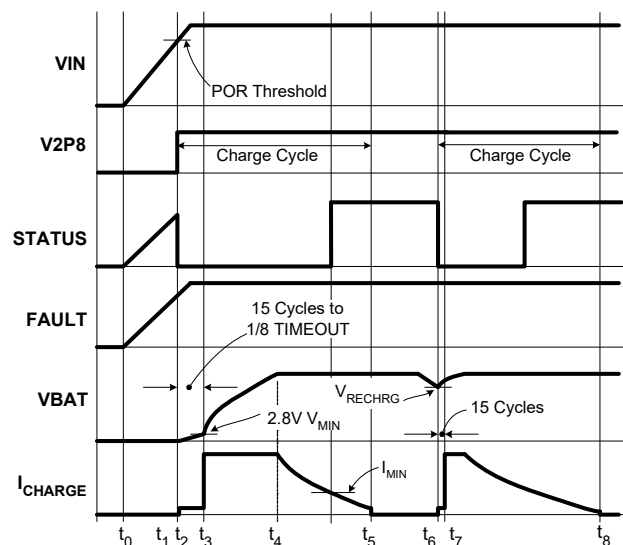

FIGURE 21. OPERATION WAVEFORMS
Figure 21 illustrates the typical signal waveforms for the linear charger from the power-up to a recharge cycle. More detailed Applications Information is given in the following.
The two indication pins, STATUS and FAULT, indicate a LOW and a HIGH logic signal respectively. Figure 21 illustrates the start-up of the charger between  $t_0$  to  $t_2$ .
A charge cycle consists of three charge modes: trickle mode, constant current (CC) mode, and constant voltage (CV) mode. The charge cycle always starts with the trickle mode until the battery voltage stays above  $V_{MIN}$  (2.8V typical) for 15 consecutive cycles of the internal oscillator. If the battery voltage drops below  $V_{MIN}$  during the 15 cycles, the 15-cycle counter is reset and the charger stays in the trickle mode. The charger moves to the CC mode after verifying the battery voltage. As the battery-pack terminal voltage rises to the final charge voltage  $V_{CH}$ , the CV mode begins. The terminal voltage is regulated at the constant  $V_{CH}$  in the CV mode and the charge current is expected to decline. After the charge current drops below  $I_{MIN}$  (programmable for the 4x4 and 5x5 package and programmed to 1/10 of  $I_{REF}$  for the 3x3 package; see "End-of-Charge (EOC) Current" on page 14 for more detail), the ISL6292 indicates the end-of-charge (EOC) with the STATUS pin. The charging actually does not terminate until the internal timer completes its length of TIMEOUT in order to bring the battery to its full capacity. Signals in a charge cycle are illustrated in Figure 21 between points  $t_2$  to  $t_5$ .
After a charge cycle completes, charging is prohibited until the battery voltage drops to a recharge threshold,  $V_{RECHRG}$  (see “Electrical Specifications” on page 6). Then a new charge cycle starts at point  $t_6$  and ends at point  $t_8$ , as shown in Figure 21. The safety timer is reset at  $t_6$ .
The trickle mode charge has a time limit of 1/8 TIMEOUT. If the battery voltage does not reach  $V_{MIN}$  within this limit, a TIMEOUT fault is issued and the charger latches up. The charger stays in trickle mode for at least 15 cycles of the internal oscillator and, at most, 1/8 of TIMEOUT, as shown in Figure 21.
The end-of-charge current  $I_{MIN}$  sets the level at which the charger starts to indicate the end of the charge with the STATUS pin, as shown in Figure 21. The charger actually does not terminate charging until the end of the TIMEOUT, as described in "Total Charge Time" on page 13. The  $I_{MIN}$  is set in two ways, by connecting a resistor between the IMIN pin and ground, or by connecting the IMIN pin to the V2P8 pin. When programming with the resistor, the  $I_{MIN}$  is set in Equation 6.